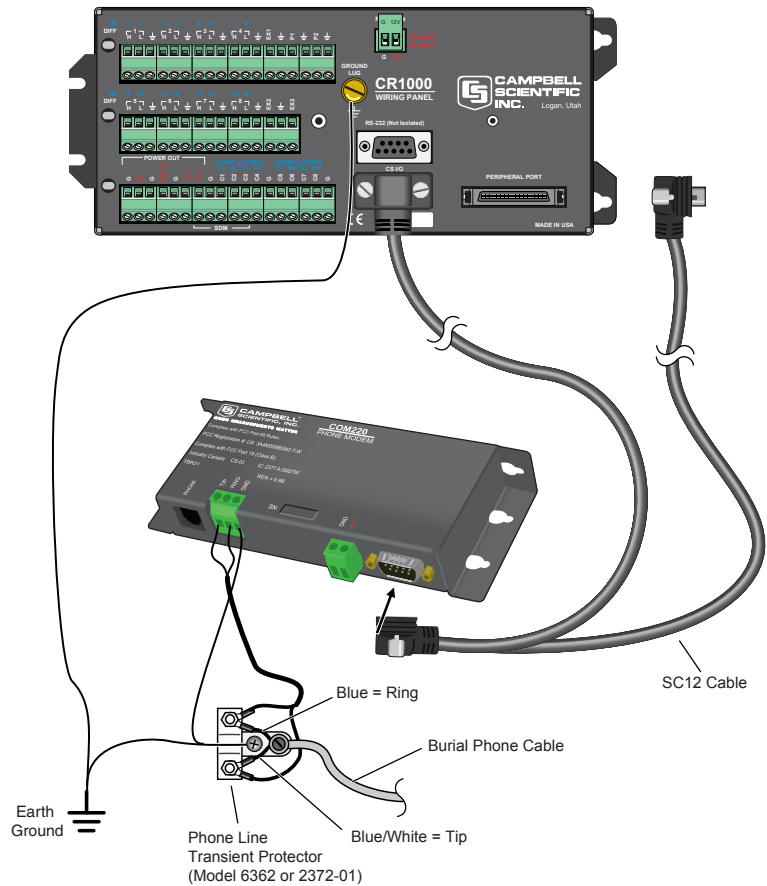

FIGURE 3-8. COM220 Modem with Surge Protector
Mount the modem to the enclosure backplate as shown in FIGURE 3-8.
3. The telephone company generally provides surge protection, and a patch cord that plugs into the RJ11C jack. If surge protection has not been provided, the Model 6362 Surge Protector Kit can be installed to the enclosure backplate. Connect the two terminals on the surge protector to the "tip" and "ring" terminals on the modem as shown in FIGURE 3-8.